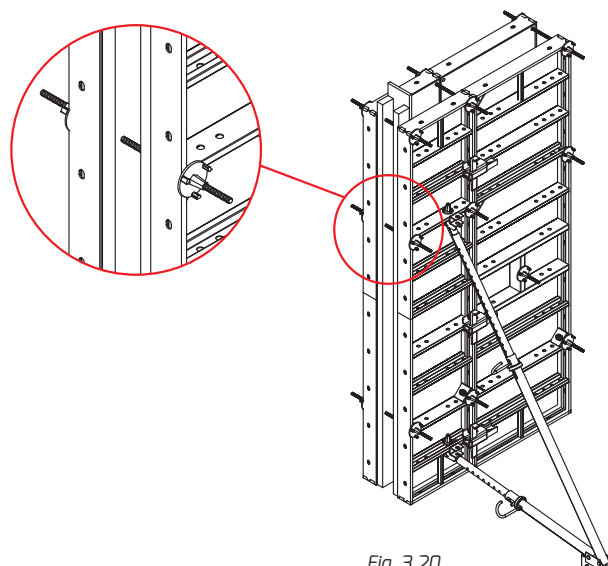

Fig. 3.20
- by using the bowstrings, nuts and timber with plywood along with using the structural holes provided in the boards (fig. 3.20).